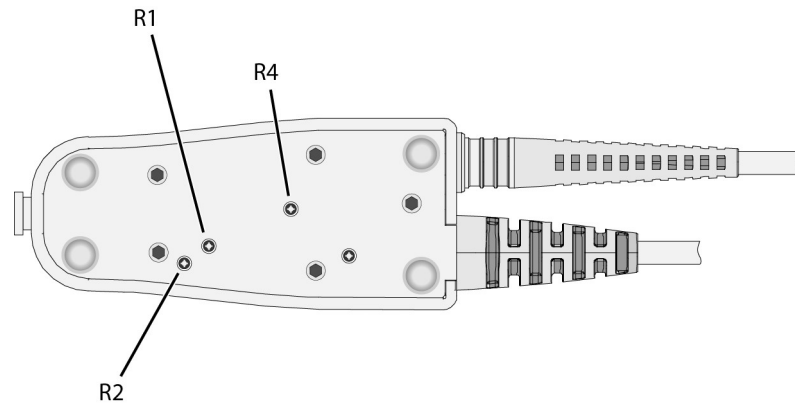

Figure 32 Location of Calibration Adjustments
During this calibration, you may be prompted to make one or more adjustments. These adjustments, located on the underside of the probe amplifier, are shown in **Figure 32** on page 69.
- 9 If you are prompted to make an adjustment, refer to Figure 32. The adjustments are located on the underside of the probe amplifier.